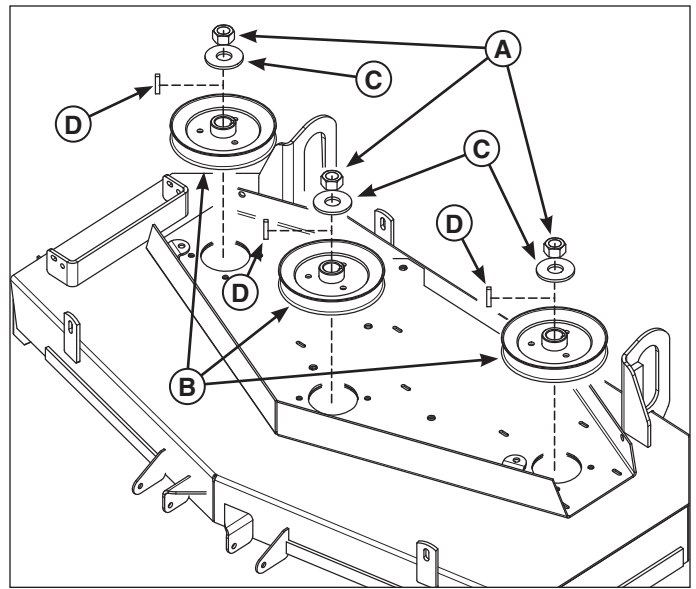

Figure 4. Removing the Spindle Pulleys
1. Loosen the 3/4 hex nut (A, Figure 4) that secures the spindle pulley (B) to the spindle.
2. Remove the 3/4 hex nut, washer (C), spindle pulley and square key (D) from the spindle. Discard the spindle pulley.